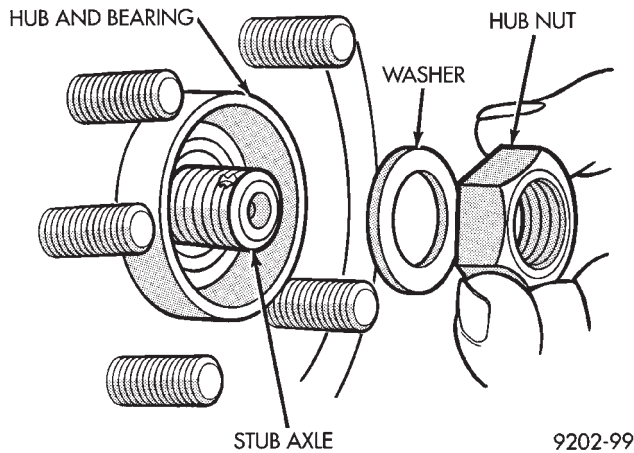

Fig. 46 Front Stub Axle Nut And Washer
(9) Clean all foreign matter from the threads of the outer C/V joint stub axle. Install the washer and hub nut (Fig. 46) onto the stub axle and tighten nut.